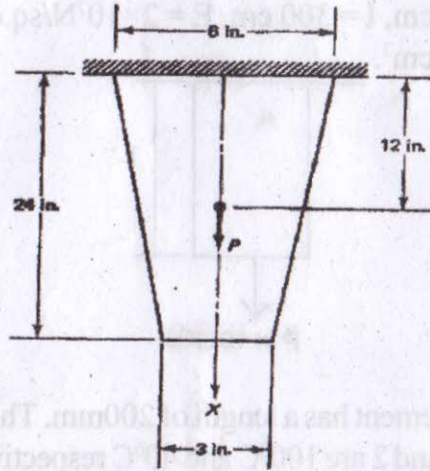

fig.2
10. A thin steel plate has a uniform thickness $t = 1 \text{ in}$, as shown in the fig. 2. Its elastic modulus, $E = 30 \times 10^6 \text{ psi}$, and weight density, $r = 0.2836 \text{ lb/in}^3$. The plate is subjected to a point load $P = 100 \text{ lb}$ at its midpoint and a traction force $T = 36 \text{ lb/ft}$. Determine: